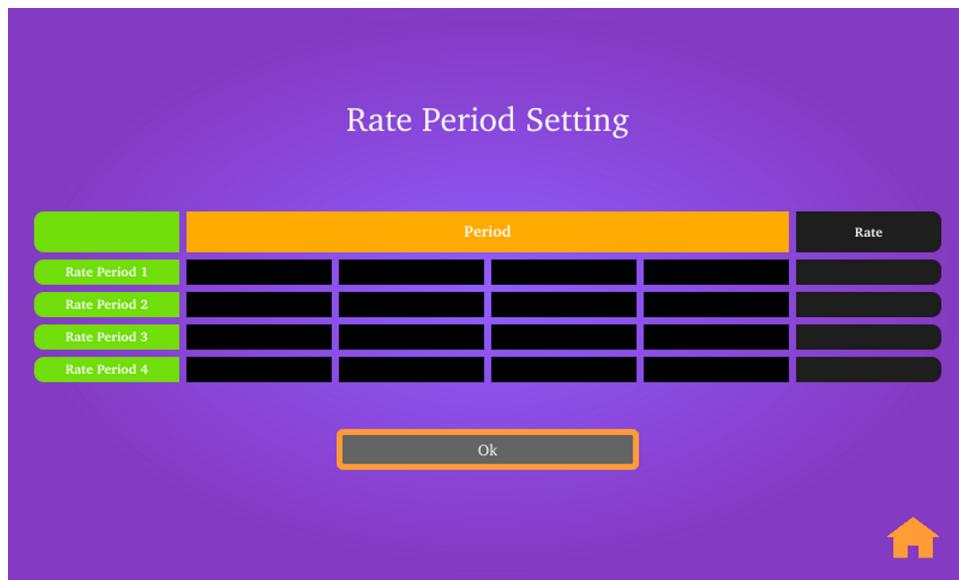

図 11. EVSE HMI Demonstration GUI—Rate Period Setting Screen (Page Three)
6. 図 11 shows page three of the GUI.